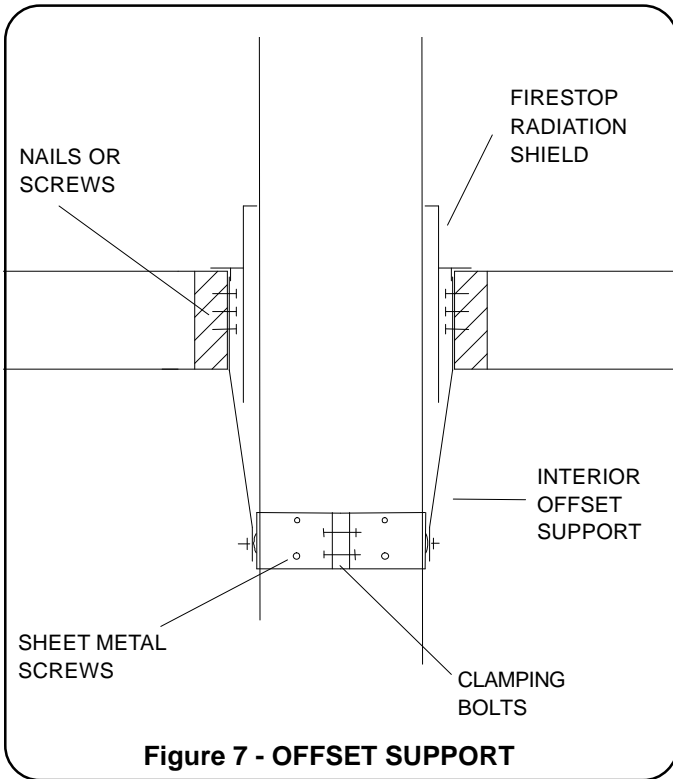

Figure 7 - OFFSET SUPPORT
- 2.6. An Interior Offset Support must be used above the second elbow. The IOS will support up to 25 feet of chimney above the second elbow. If additional chimney height is required, use additional IOS at vertical intervals not exceeding 25 feet. fit the band around the Chimney and fasten it by tightening the two clamping screws. Additionally, insert eight #8 x 1/2" screws (provided) through the band's pre-punched holes and into the Chimney skin. Secure the 4 straps of the IOS to joists. Use a minimum of three 1.5" spiral nails or screws per strap. Nails should be loaded in shear, not in tension. See Figure 7.